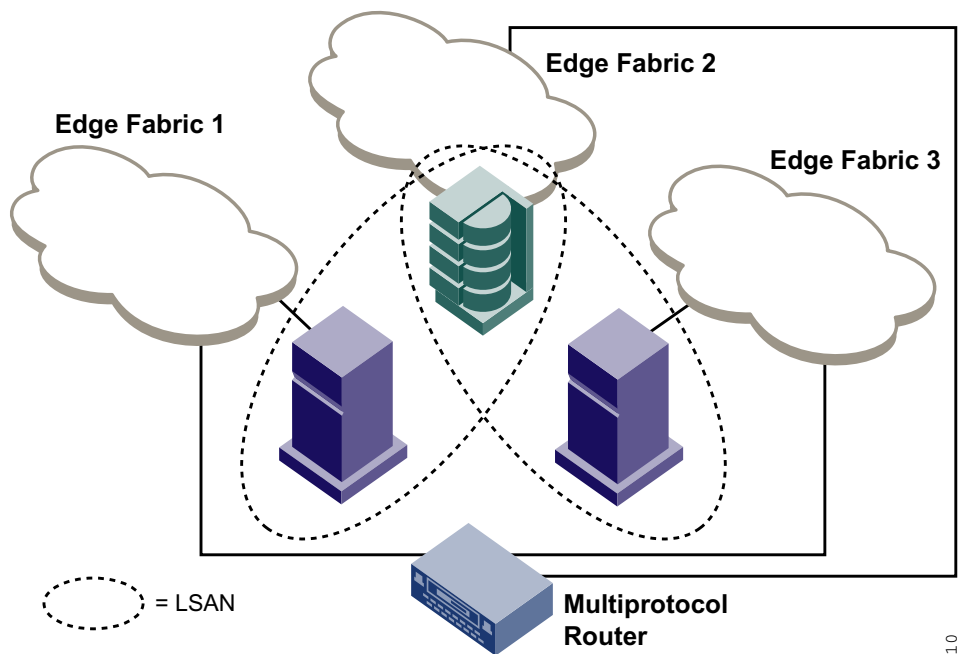
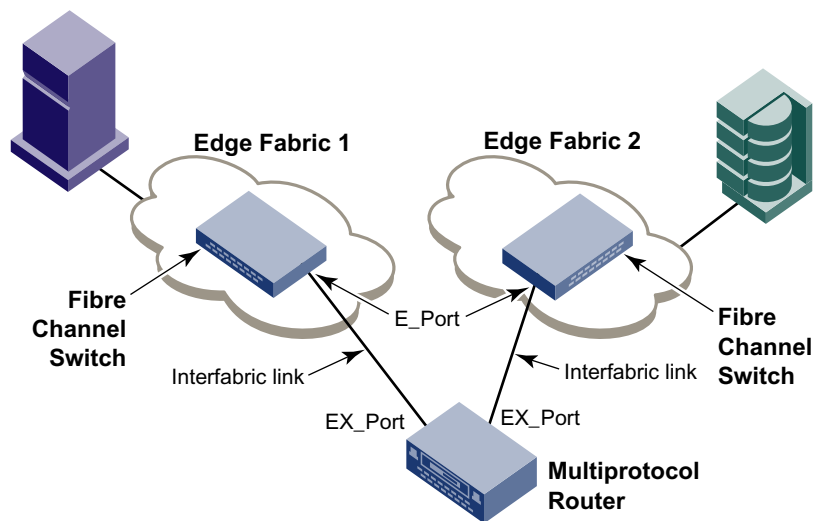
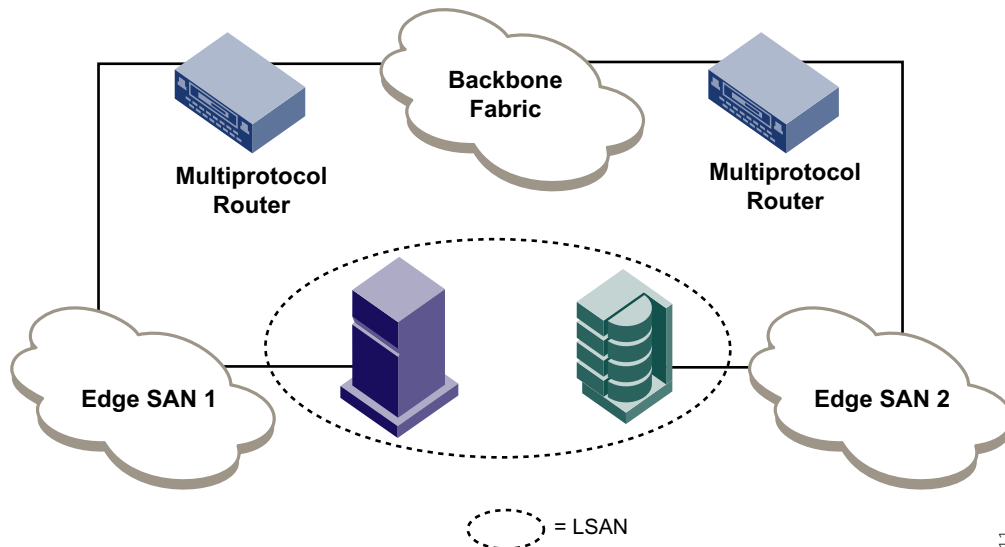

Figure 3 Simple meta-SAN
Figure 4 Meta-SAN with interfabric links
Figure 5 Edge SANs connected through a backbone fabric
FC-FC routing introduces the following concepts (see Figure 3, Figure 4 on page 46, and Figure 5 on page 47):
- You can create logical storage area networks (LSANs) that can span fabrics. These LSANs allow Fibre Channel zones to cross physical SAN boundaries without merging the fabrics and while maintaining the access controls of zones. (See Figure 3.)
- A special type of port, called an *EX_Port*, functions somewhat like an *E_Port* but terminates at the router and does not propagate fabric services or routing topology information from one edge fabric to another. The link between an *E_Port* and an *EX_Port* is called an *interfabric link* (IFL). You can configure multiple IFLs from one MP Router, from additional MP Routers, or from both. (See Figure 4 on page 46.)
- MP Routers can also connect edge fabrics using a *backbone fabric*—similar to a TCP/IP backbone network. A backbone fabric consists of at least one MP Router, and possibly a number of Fabric OS-based Fibre Channel switches. It provides transport but is otherwise transparent to the hosts, targets, and LSANs. A fabric cannot be both a backbone fabric and an edge fabric. (See Figure 5 on page 47.)
Figure 3 shows a simple meta-SAN consisting of one MP Router connecting hosts in Edge Fabric 1 and Edge Fabric 3 with storage in Edge Fabric 2 through the use of LSANs.
Figure 4 shows a meta-SAN consisting of two edge fabrics connected through an MP Router with interfabric links.
Figure 5 shows another meta-SAN consisting of a host in Edge SAN 1 connecting to storage in Edge SAN 2 through a backbone fabric connecting two MP Routers.
Zones are locally defined. Names and memberships, with the exception of hosts and targets exported from one fabric to another, do not need to be coordinated between the edge fabrics. For example, in Figure 5 on page 47, when the zones for Edge SAN 1 are defined, you do not need to consider the zones in Edge SAN 2, and vice versa.